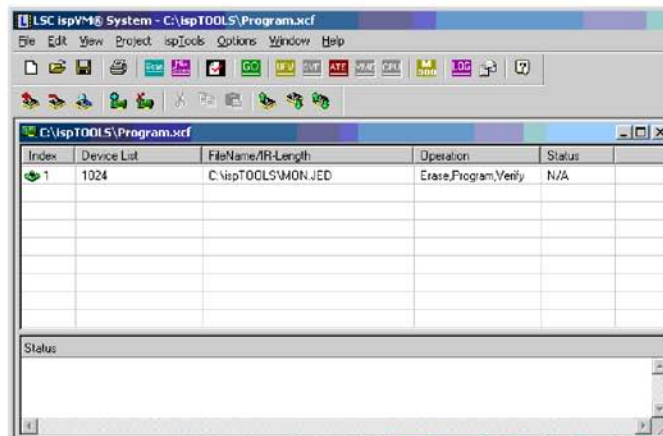

Figure 5. Lattice Programming
- 7 The ISPVM system window should display (see Figure 5). It may be necessary to select "C:\ISPTools\Program.xcf" from the File menu to obtain the setup shown.